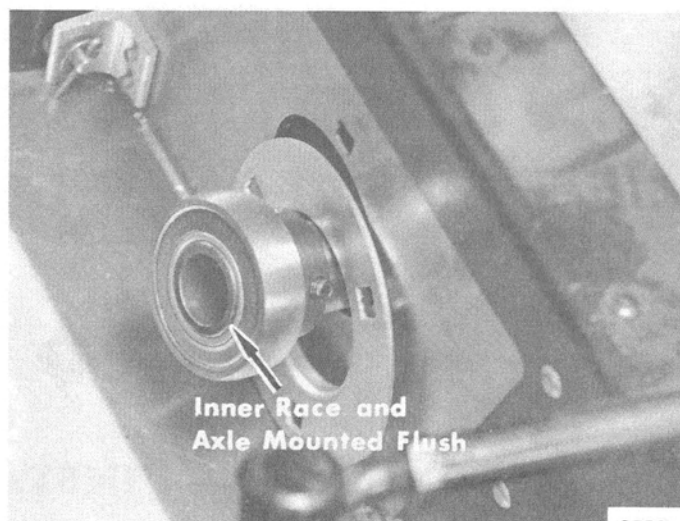

Figure 8. Installing Right Side Bearing
3. Position end of front axle flush with inner race bearing. (Figure 8) Tighten locking collar and secure allen screw.